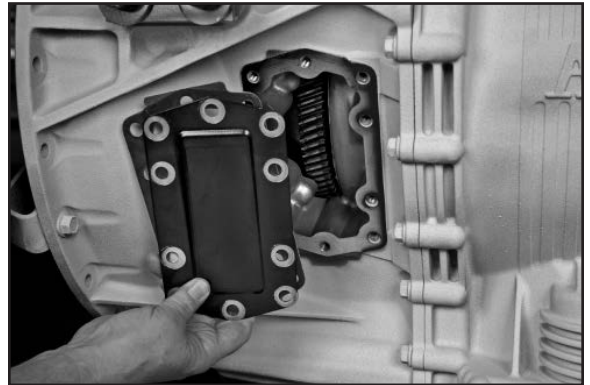

Figure 18
3. Remove the gasket and clean the aperture surface (**Fig. 18**).